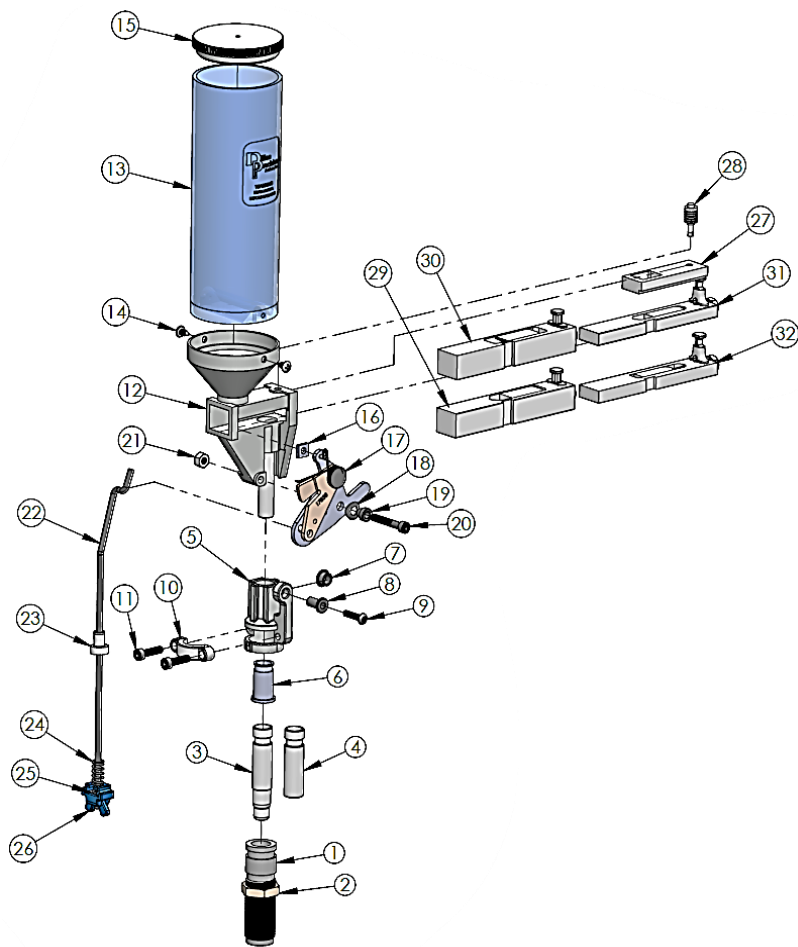

**Fig. 8—Tighten the 10-32 SHCS 13904 with the 5/32" Allen Wrench for free Bellcrank movement**
6. Tighten the 10-32 SHCS 13904 with the 5/32" Allen Wrench while holding the 10-32 Lock Nut 16340 with a 3/8" Wrench in **Fig. 8**, until the 10-32 SHCS and the Nut stop, then back the Nut up 1/16 of a turn. This step might require some final tightening or loosening. Check that the Powder Bar moves freely back and forth. If it is too loose, the White Bellcrank Cube will fall out or the Bellcrank. If it is too tight it will drag against the Powder Measure Body.